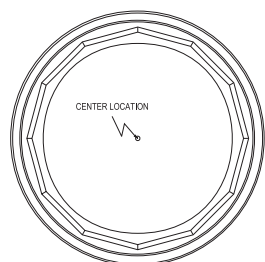

FIGURE 1
A. For manway flange or bung adaptor mounting nipples, locate center indicator in sump base for proper alignment of template (See FIGURE 1). After holes are drilled, sand surrounding area with 40 grit or coarser sandpaper or grinder. Clean sanded surface with Acetone to remove any debris, oils, mold waxes or release agents. Apply a generous bead of Bostik adhesive to the outside of the sump, all around of the hole pattern. Mount sump and tighten nuts in a star pattern. Mount sump and tighten nuts in a star pattern to ensure an even seal. Backfill the void between the tank top and the bottom of the sump base with clean fill or pea rock.